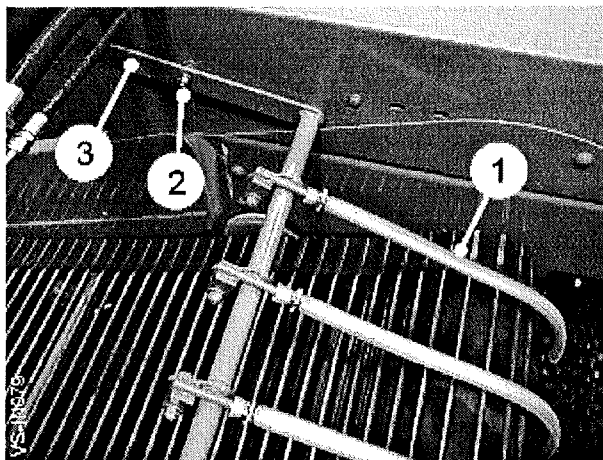

Fig 14
The function of the haulm fingers (item 1, fig 14) is to catch the haulm and direct it down into the haulm roller. Moving the haulm fingers away from the web will allow a clearer flow for the crop. In green top or heavy trash it may be necessary to rotate some of the fingers out of the crop flow to prevent overloading of the haulm roller and excessive damage to the crop.
By releasing the clamp bolt (item 2, fig 14) and raising/lowering the handle (item 3, fig 14) the fingers can be moved. Each half is adjusted separately. A plastic sleeve is fitted to each finger. The sleeves prevent bruising of the potatoes and should be replaced when they wear through or are lost.